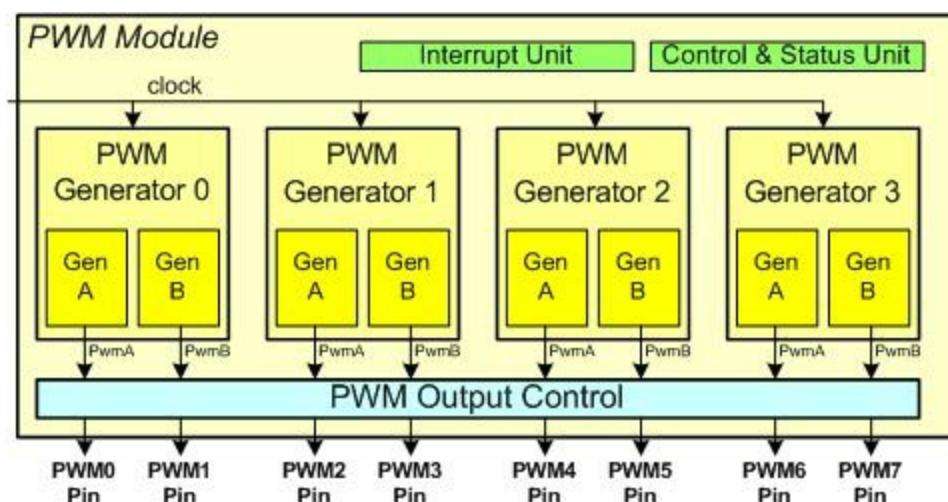
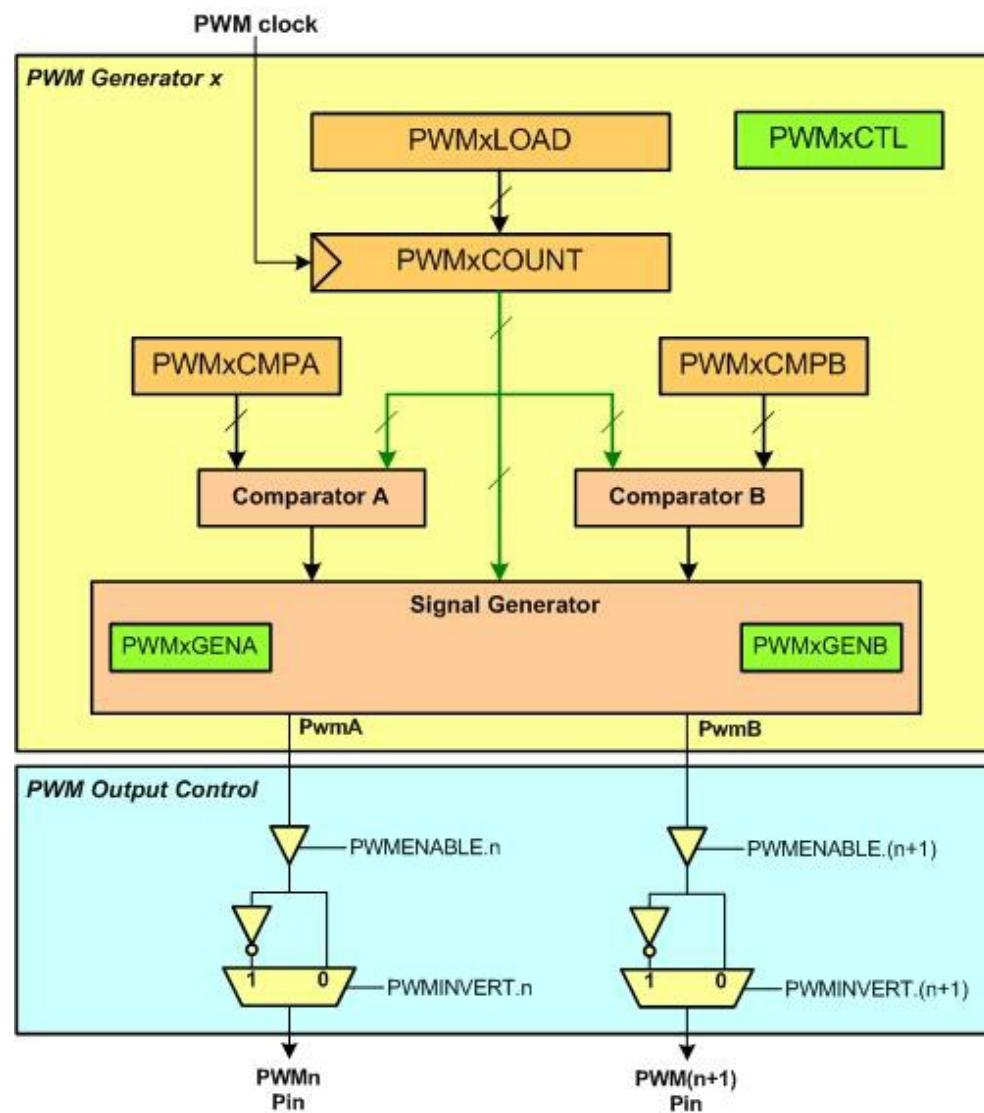

Figure 11-10: a PWM Module
Figure 11-14: A PWM Generator (Counter) and PWMA and PWMB Output
7. As the Counter counts , it may change the output pin when the counter value matches the Compare registers, reaches zero, or is reloaded. The options for output pin change are toggle, driven LOW, or driven High. See Figure 11-10.
In TI Tiva LaunchPad, we have two PWM modules PWM0 and PWM1. Each PWM module has four Generators (Counters) as shown in Figure 11-10. Figure 11-14 shows the simplified structure of a Generator.